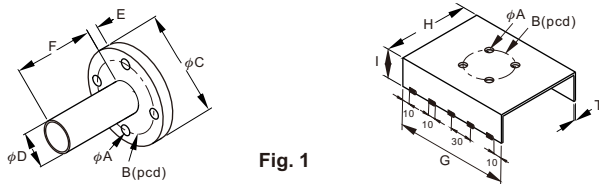

Fig. 1
- ★ Keep mounting area clean and even before installation. For the best vibrating results, it is recommended to reinforce mounting area with a U shape iron that is stitch welded. Shown Fig. 1